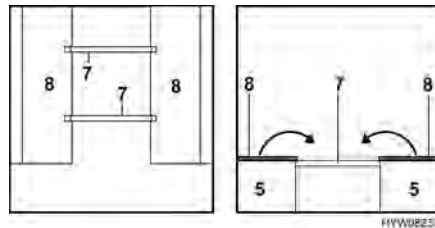

Fig. 46 During conversion
- Remove the bed rods (Fig. 46,7) from the holder on the bedding box (Fig. 46,5).
- Fold up the seat bases (Fig. 46,8) and locate the bed rods (Fig. 46,7) in the grooves horizontally between the two bedding boxes.
- Fold down the upper section of the seat base (Fig. 46,8) towards the centre of the vehicle on both sides and rest them on the bed rods.